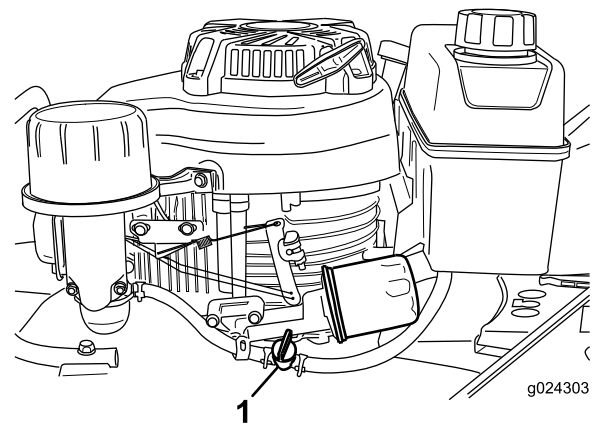

Figure 15
2. Open the fuel valve (Figure 15).
Note: Close the fuel valve (Figure 15) if you will not be starting the engine soon afterward.